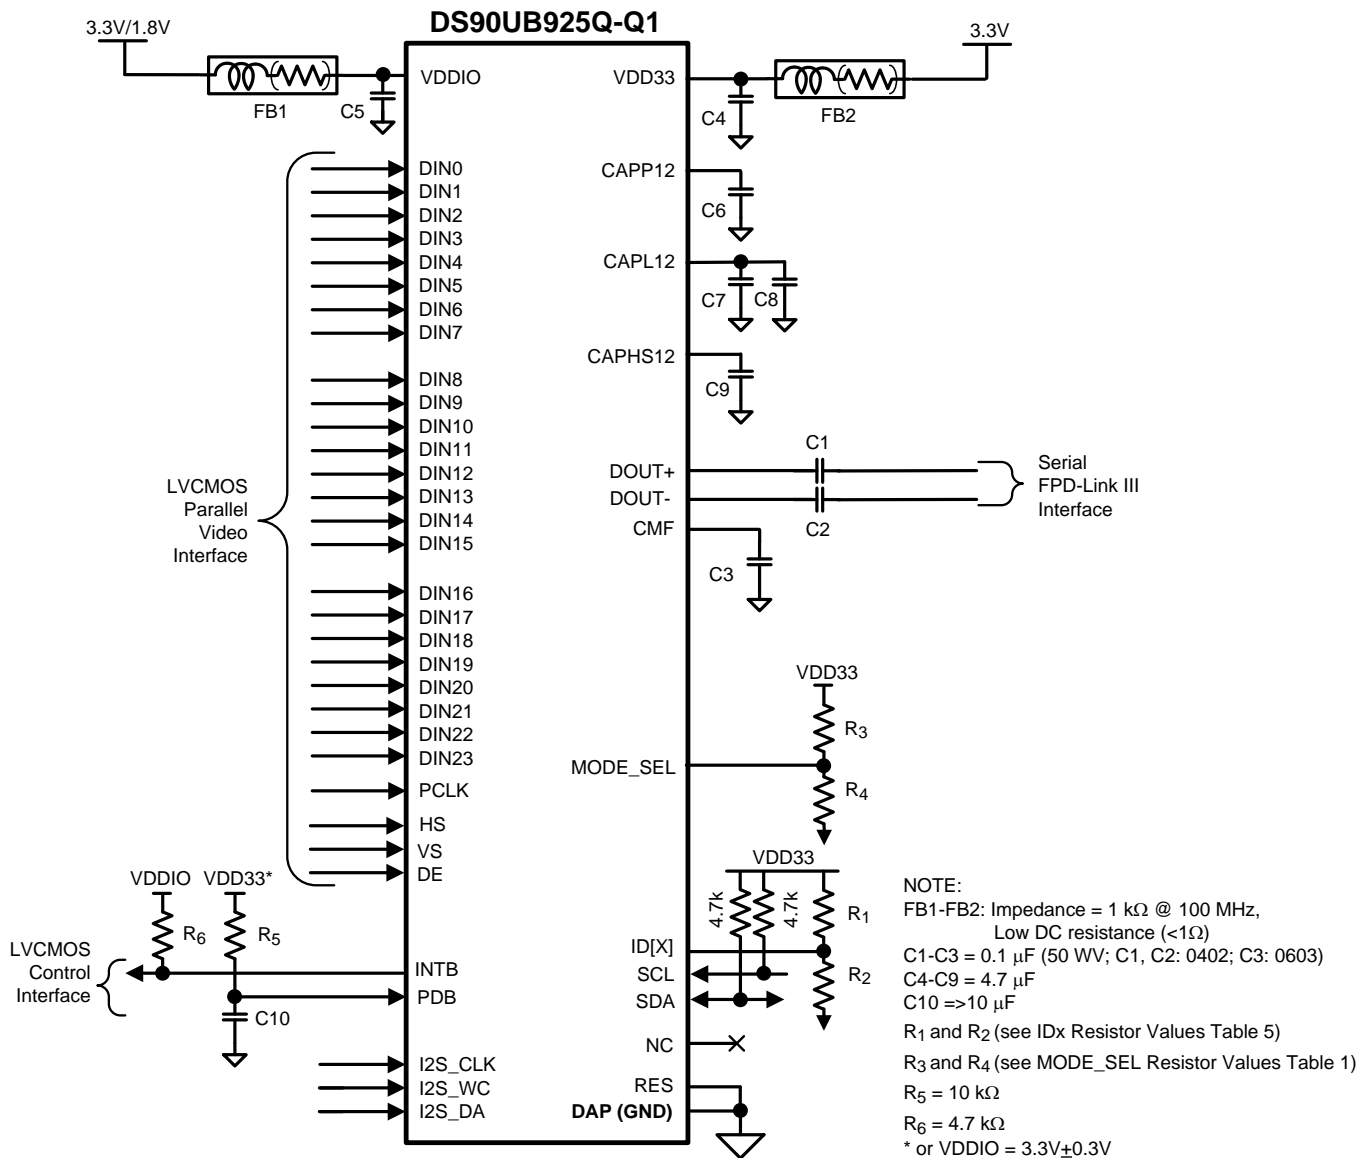

Figure 23. Typical Connection Diagram
Figure 23 shows a typical application of the DS90UB925Q-Q1 serializer for an 85 MHz 24-bit Color Display Application. The camera application has the same recommended connections. The CML outputs must have an external 0.1  $\mu$ F AC coupling capacitor on the high speed serial lines. The serializer has an internal termination. Bypass capacitors are placed near the power supply pins. At a minimum, six (6) 4.7 $\mu$ F capacitors and two (2) additional 1 $\mu$ F capacitors should be used for local device bypassing. Ferrite beads are placed on the two (2) VDDs ( $V_{DD33}$  and  $V_{DDIO}$ ) for effective noise suppression. The interface to the graphics source is with 3.3V LVCMOS levels, thus the  $V_{DDIO}$  pin is connected to the 3.3 V rail. A RC delay is placed on the PDB signal to delay the enabling of the device until power is stable.